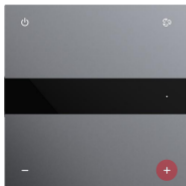

Figure 1
1. Long-press the "+" button for 15 seconds (as shown in Figure 1) until all button indicators flash rapidly.